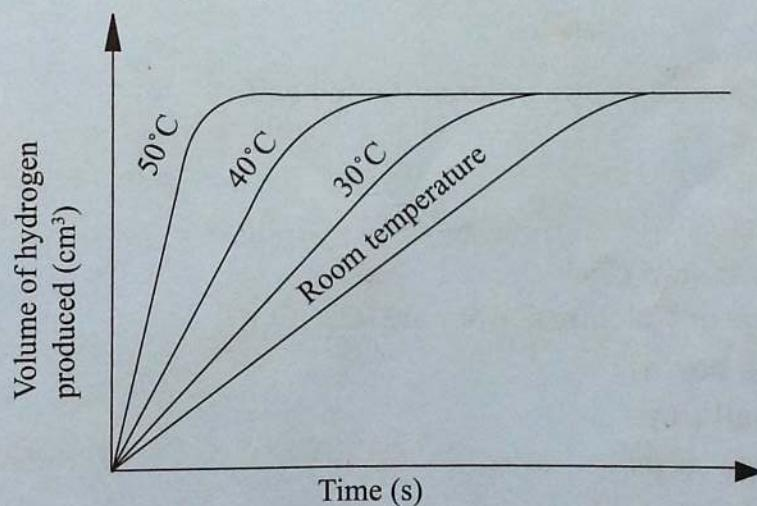

Fig. 1.6: A graph of volume of hydrogen gas produced against time
- Plot a graph of volume of hydrogen produced against time in each experiment on the same axes. Compare your curves with Fig. 1.6.